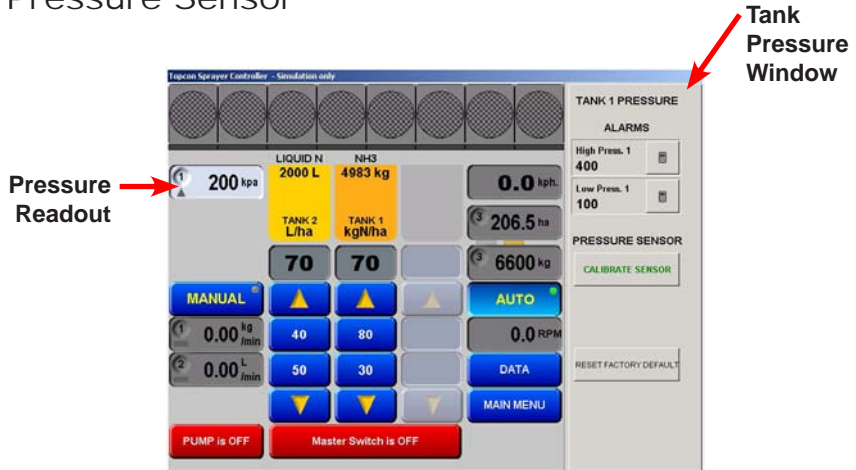

Figure 10-1. Working Screen Showing Tank Pressure Window
The number in the top left corner of the Pressure Readout represents which tank (1,2 or 3) the Pressure Sensor is connected to. The Pressure Readout shown in Figure 10-1 is displaying a '1', therefore the pressure readout displayed is connected to Tank 1. Up to 3 Pressure Readouts can be displayed. The units used are displayed in the Pressure Readout.
1. Select the **calculator** icon (Figure 10-1 on page 10-1) next to High Press. 1 to set a new High Pressure alarm
1. Select the **calculator** icon (Figure 10-1 on page 10-1) next to Low Press. 1 to set a new Low Pressure alarm
1. Select **RESTORE FACTORY DEFAULTS** at the bottom of *Tank Pressure* window (Figure 10-1 on page 10-1)
2. Select **CALIBRATE SENSOR** in the *Tank Pressure* window (Figure 10-1 on page 10-1)